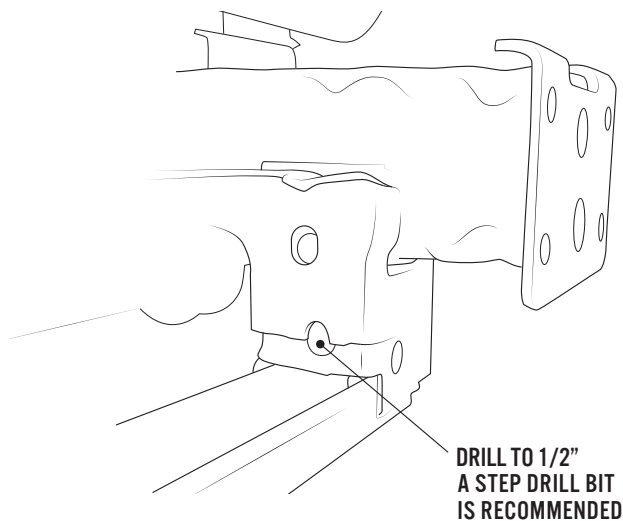

Figure 2
1. Drill out the Lower Mounting hole to 1/2" dia, (Fig. 2), to allow a 12mm bolt to pass through. Deburr the edges of the hole and apply a rust inhibitor to all the bare edges.